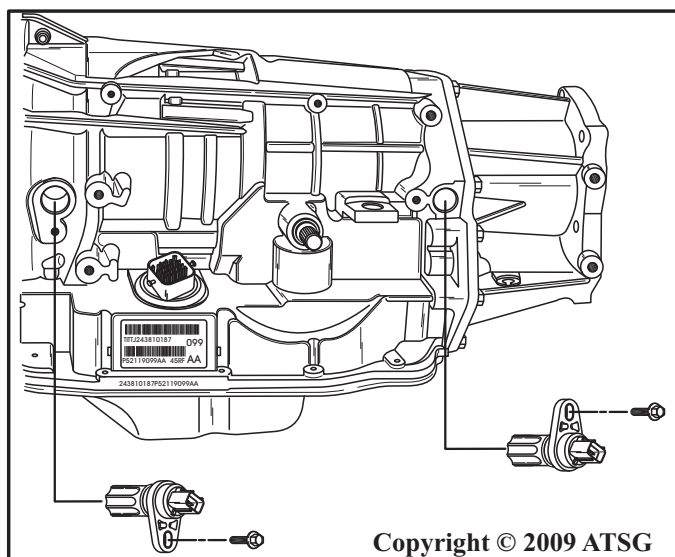

Figure 28
5. Remove both input and output speed sensors from the case, as shown in Figure 28, remove and discard both "O" rings.